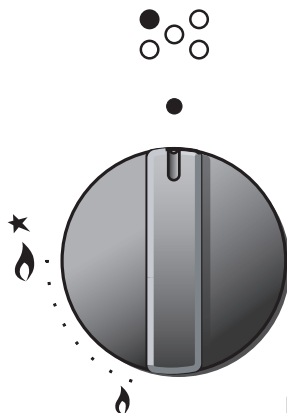

Fig. 4.3
Each hob burner is controlled by a separate gas tap operated by a control knob (fig. 4.3) which has 3 positions marked on the control panel, these are:
- 1) Press in the corresponding knob and turn counter-clockwise to the full flame position marked by the  symbol (fig. 4.3) and hold the knob in until the flame has been lit.